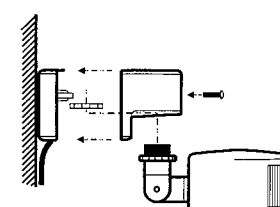

FIG. 8
- Use white plastic pins on sensor base to fix terminal block into position. Re-check the wire connection is correct. Cover sensor base with connection box cover then fix with 2 screws (See FIG 8).